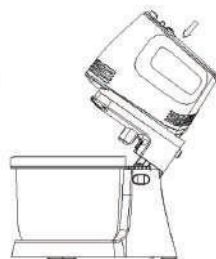

Fig.4
4. Lower down the head of mixer and pressing the base switch (Fig.4).